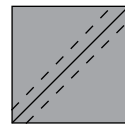
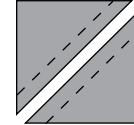
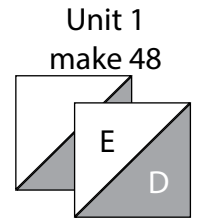

Fig. 1
Fig. 2
Fig. 3
1. Place (1) $3\frac{7}{8}$ " Fabric D square on top of (1) $3\frac{7}{8}$ " Fabric E square, right sides together. Draw a line across the diagonal of the top square (Fig. 1). Sew $\frac{1}{4}$ " away from each side of the drawn diagonal line (Fig. 1). Cut the (2) squares apart on the drawn diagonal line (Fig. 2) to make (2) half-square triangles. Trim the half-square triangles to measure $3\frac{1}{2}$ " square to make (2) Unit 1 squares (Fig. 3). Repeat to make (48) Unit 1 squares total.